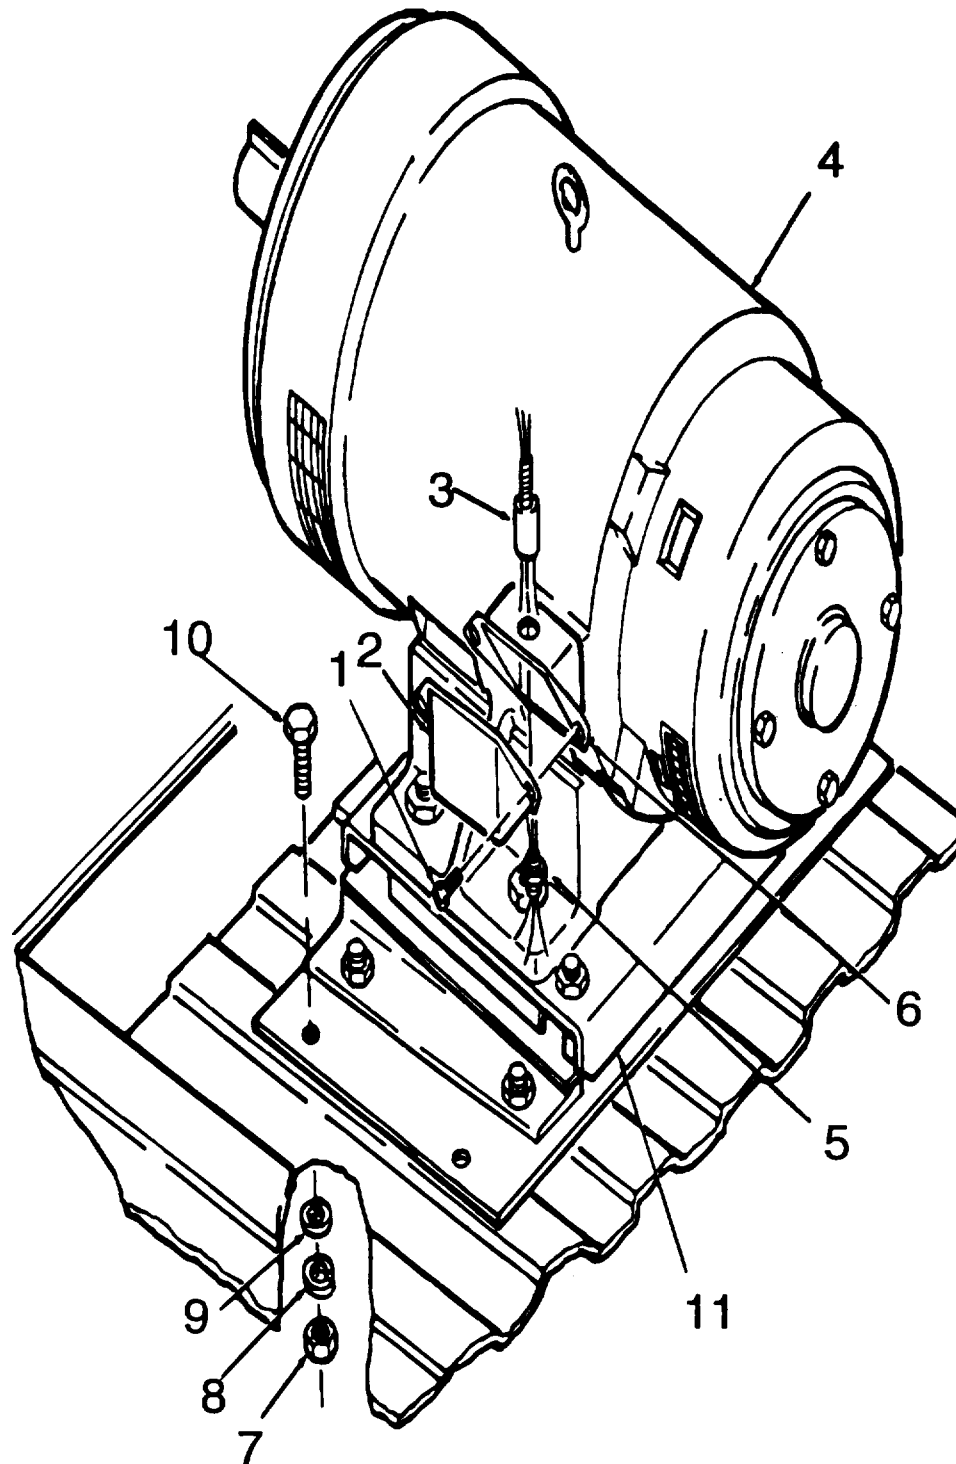

Figure 5-20. Alternator, Removal/Installation
a. **Removal.** (Refer to figure 5-20.)
- (1) Remove two machine screws (1) and box cover (2) to gain access to alternator AC cable assembly (3) connections.
- (2) Disconnect alternator AC cable assembly (3) from alternator (4).
- (3) Remove fitting (5) and pull alternator AC cable assembly (3) out of alternator electrical connection box (6).
- (4) Remove four hexagon nuts (7), four lockwashers (8), four flat washers (9), and four hexagon cap screws (10) which attach the alternator mount (11) to the shop set floor.
- (5) Carefully slide alternator mount (11) with alternator (4) attached toward the rear of the shop set where it can be attached to a suitable lifting device and removed.
- (7) Press ball bearings (8 and 12) onto shouldered shaft (7).
- (8) Carefully place shouldered shaft (7) with main rotor (29) and exciter rotor attached into alternator housing (5).
- (9) Carefully place ball bearing (12) into bearing retainer (11). Secure bearing retainer (11) to alternator housing (5) with four lockwashers (10) and four cap screws (9).
- (10) Install spring washer (6) onto shouldered shaft (7) in front of ball bearing (8).
- (11) Carefully lift shouldered shaft (7) and slide end bell (4) over shouldered shaft. Secure end bell (4) to alternator housing (5) with four cap screws (1), four lockwashers (2) and four hexagon nuts (3).
- (12) Rotate shouldered shaft. Check for binding and free movement of shaft. If shaft binds or does not rotate freely, repeat steps 5 through 11, preceding.
- (13) Place metal grille (25) around alternator housing (5) and secure with two cap screws (22), two lockwashers (24), and two plain nuts (23).
- (14) Place metal grille (21) onto alternator housing (5) and secure with four hexagon cap screws (19) and four flat washers (20).
- (15) Place metal grille (18) onto alternator housing (5) and secure with four hexagon cap screws (16) and four flat washers (17).
- (16) Place connector box (15) onto alternator housing (5) and secure with four hexagon cap screws (13) and four lockwashers (14).
**h. Installation.** (Refer to figure 5-20.)
- (1) Carefully slide alternator mount (11) and alternator (4) into the rear of the shop set. Remove lifting device and slide alternator mount (11) forward until alternator mount holes are over shop set mounting holes.
- (2) Secure alternator mount (11) to shop set floor with four hexagon cap screws (10), four flat washers (9), four lockwashers ( ? ), and four hexagon nuts (7).